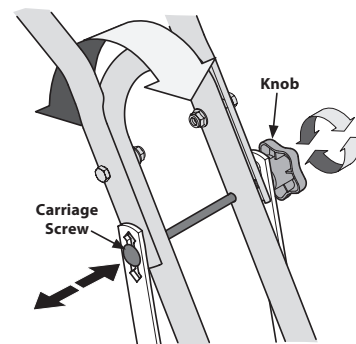

Figure 4
4. There are three height adjustment holes in the handlebar support bracket. Use a setting that will position the handlebars at approximately waist level when the tines are 3-4" into the soil. To adjust the height of the handlebars loosen the knob on the handle, pull out on the carriage screw, adjust to the desired setting, push the carriage screw in until the square portion of the screw locks into place and re-tighten the knob. See Figure 4.